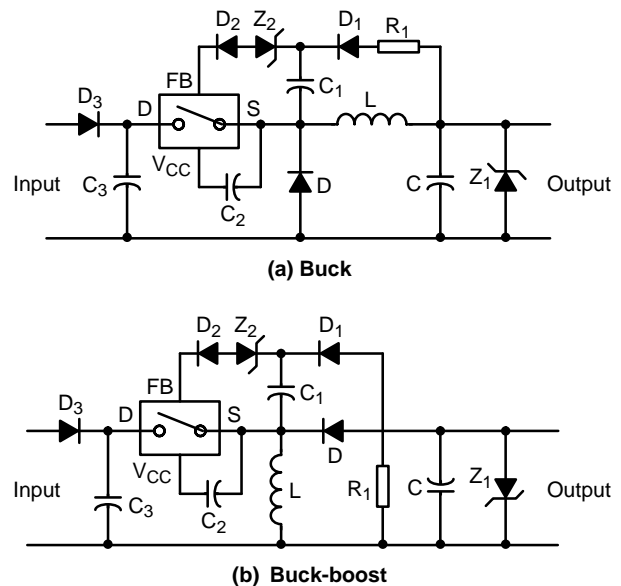

Figure 1. Proposed Circuit Using NCP1052
Figure 1 shows the proposed buck and buck-boost converters. The rectifier circuit, which consists of capacitor  $C_3$  and diode  $D_3$ , is in the front end for AC or DC input voltage. Then, the NCP1052 is self-powered up from the rectified input voltage directly with a  $V_{CC}$  capacitor  $C_2$ . When the switch inside the IC is opened, there is a voltage across Drain (D) and Source (S) pins of the IC. If this voltage is greater than 20 V, an internal current source  $I_{start} = 6.3$  mA (typ.) inside the IC charges up  $C_2$  and a voltage in  $C_2$  is built up for the operation of the IC. Comparing to the switching frequency, the  $V_{CC}$  voltage level is in a lower-frequency 7.5-8.5 V hysteresis loop. This  $V_{CC}$  hysteresis loop is for frequency jittering features to minimize EMI and short-circuit fault timing function.
output voltage will rise up dramatically and burn the output capacitor eventually. Hence, a zener diode  $Z_1$  or minimum “dummy” load resistor is needed to consume the minimum amount of energy as shown in Figure 1. It is also noted that when  $R_1$  pulls up the output voltage at a given output current condition, the output voltages at lower output current conditions are also pulled up. Hence, the clamping zener diode  $Z_1$  is needed to be with the breakdown voltage as same as the output voltage but it will reduce some of the efficiency at lower output current conditions.
As shown in Figure 9, a 2 inch by 1.5 inch small surface-mount demo board of 12 V / 100 mA buck is presented. The design is made on a single-sided board. The bill of material is shown in Table 2. The component symbols are those in Figure 1. In order to have sufficient startup ability, the  $V_{CC}$  capacitor is 6.8  $\mu$ F which gives a 3.4 ms fault sampling time. Because of this feature, the circuit enters fault mode when output current exceeds 200mA after startup as shown in Figure 10(b). The efficiency of the circuit is typically 65% at 100 mA.